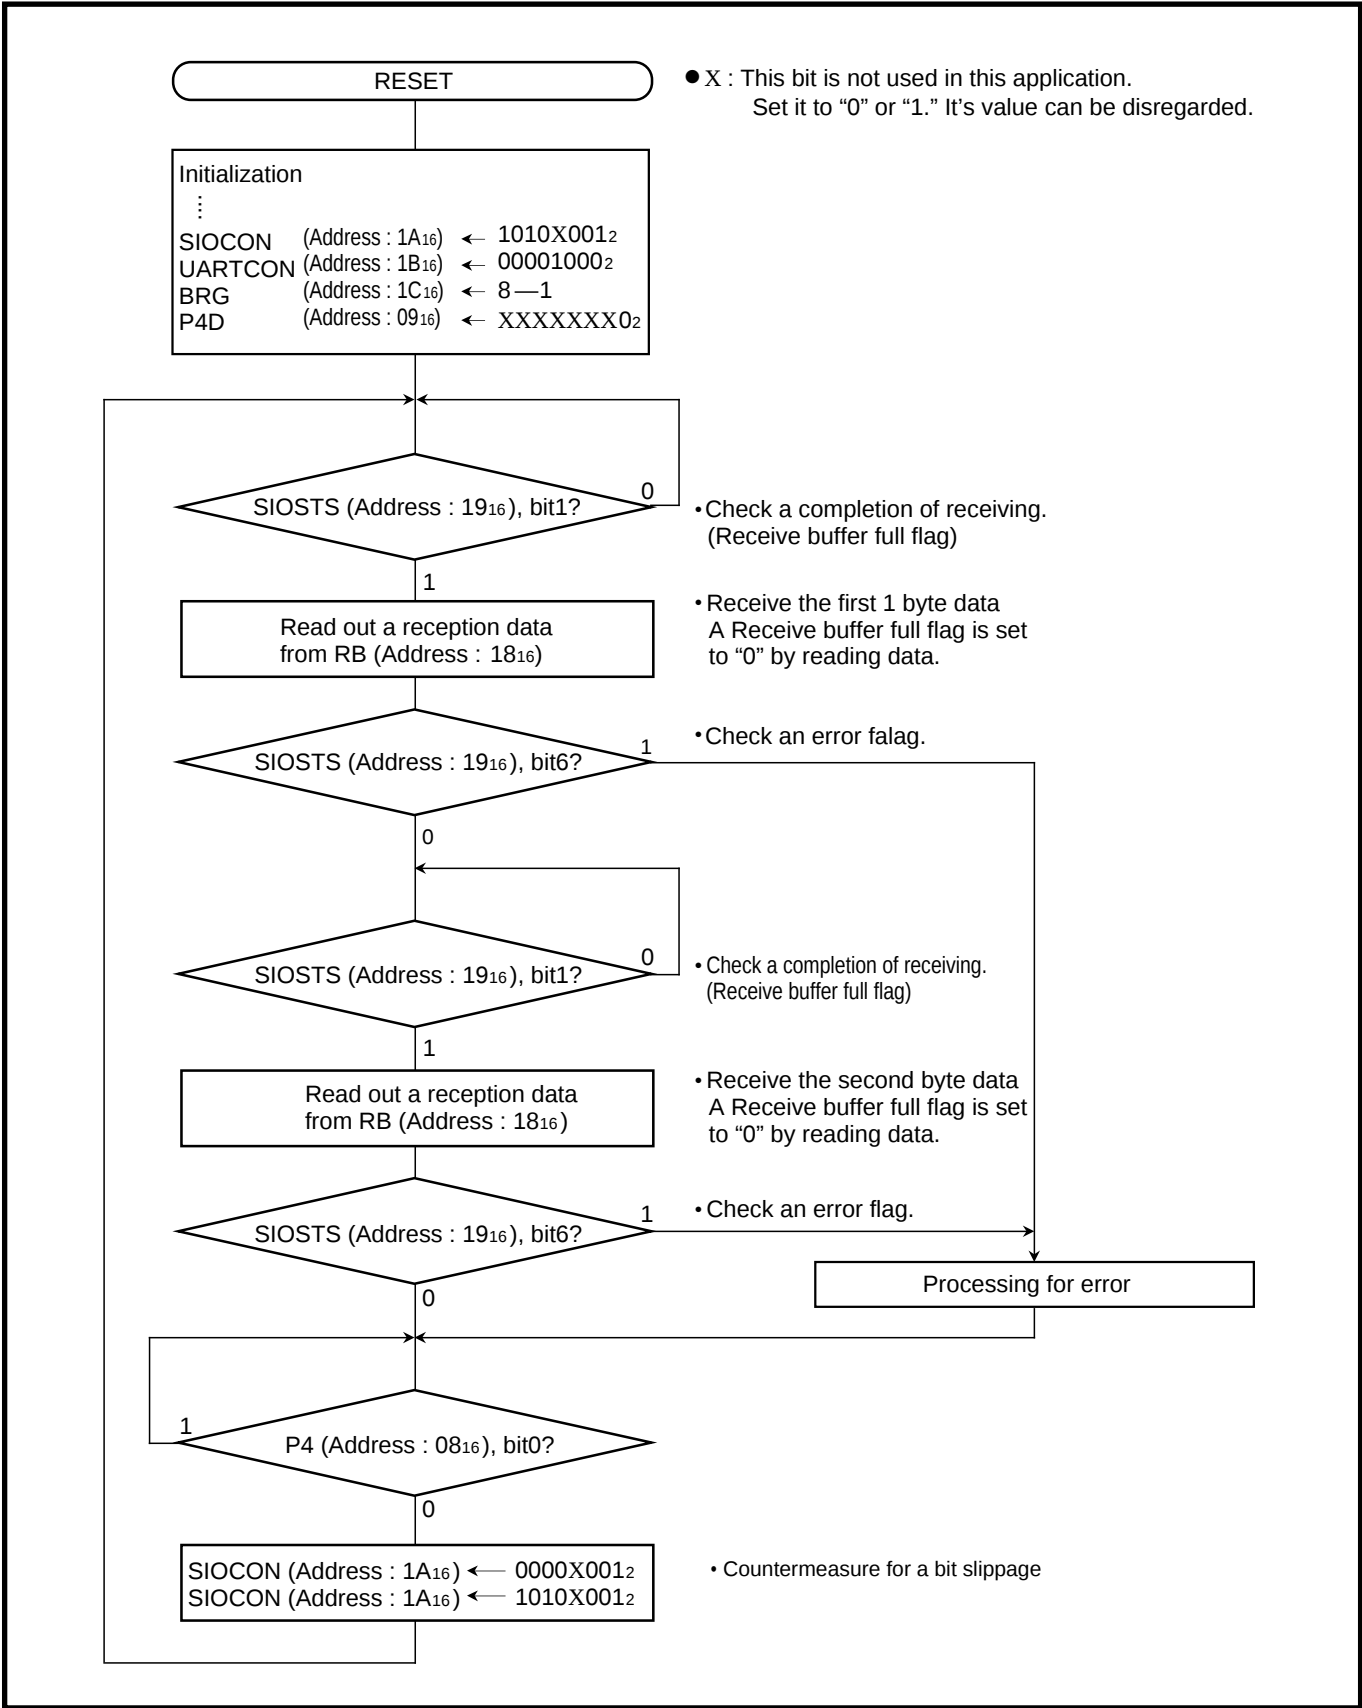

Fig. 2.3.34 Control procedure at a receiving side [Communication using UART]
**Control procedure :** Figure 2.3.33 shows a control procedure at a transmitting side, and Figure 2.3.34 shows a control procedure at a receiving side.